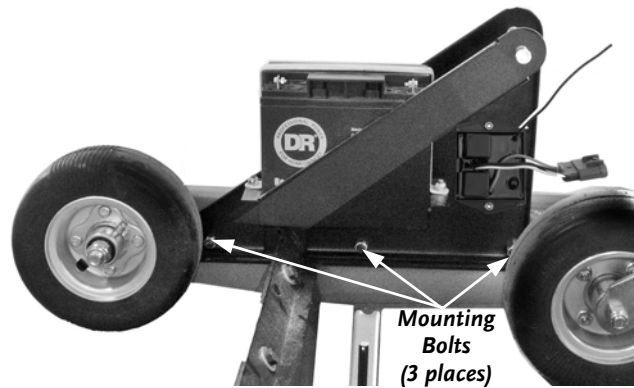

Figure 3
2. Using two (2) 9/16" Wrenches, remove the three (3) Mounting Bolts, Washers and Lock Nuts (**Figure 3**) from the Left Rear Side Frame.
3. Place the Clevis Base/Battery Assembly on the Left Side Rail (**Figure 3**) and align the Assembly's Mounting Holes with Holes on the Frame.
4. Using two (2) 9/16" Wrenches, bolt the Battery/Clevis Base Assembly to the Left Side Rail with the three (3) 3/8"-16 x 1-1/2" Bolts, 3/8" Flat Washers and 3/8" Nylon Lock Nuts (**Figure 3**). Tighten all Bolts securely.